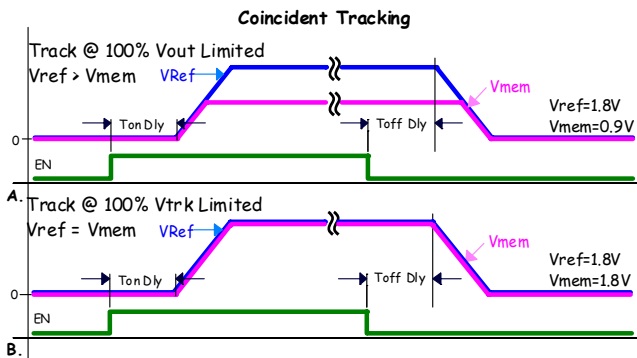

FIGURE 20. COINCIDENT TRACKING
Figure 23 is an example of a basic pin-strap tracking configuration. The VTRK pin is an analog input that, when tracking mode is enabled, the voltage applied to the VTRK pin performs as a reference for the device's output voltage. The ZL2106 offers two modes of tracking: coincident and ratiometric. Figures 20 and 21 illustrate the output voltage waveform for the two tracking modes.
- a. Track at 100% VOUT limited. Member rail tracks the reference rail and stops when the member reaches its target voltage, Figure 20 (A).
- b. Track at 100% VTRK limited. Member rail tracks the reference at the instantaneous voltage value applied to the VTRK pin, Figure 20 (B).
The configuration settings for Figures 20 and 21 are shown below in Figure 22. In each case the reference and member rise times are set to the same value.
Tracking Configuration Figure 20 (A)
Tracking Configuration Figure 20 (B)